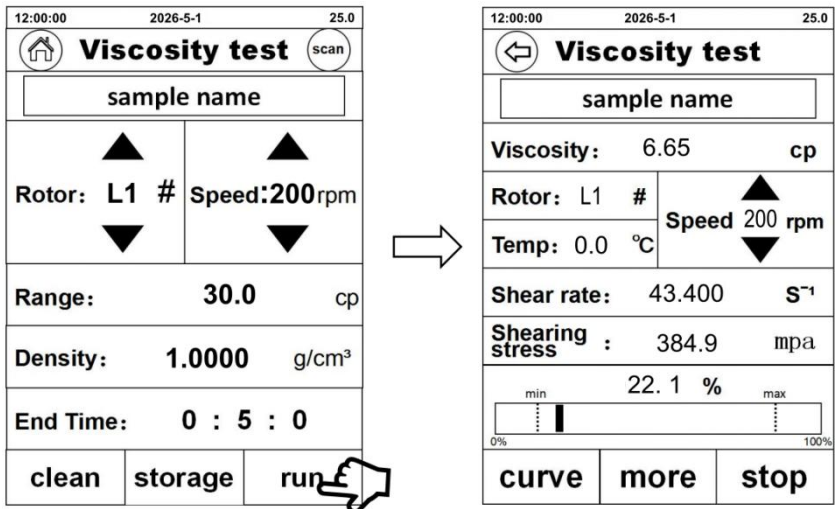

Fig. 8
3) Start the test: After setting parameters, click "Run" to start. The interface shows(Fig.8):